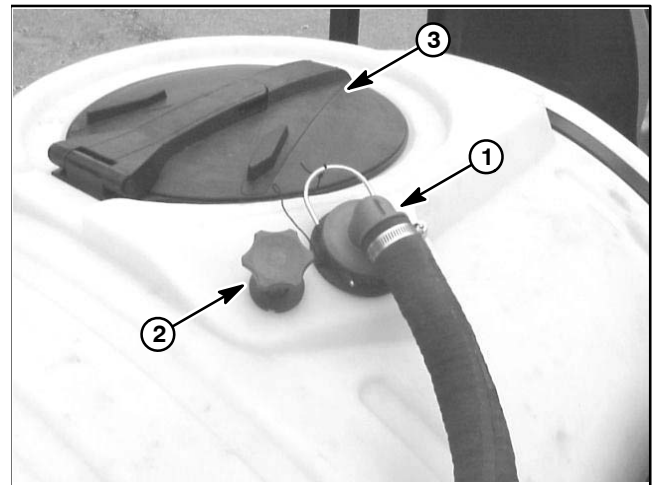

Figure 49
3. Raise tank lid and remove strainer basket to gain access to suction tube inside spray tank (Fig. 49).